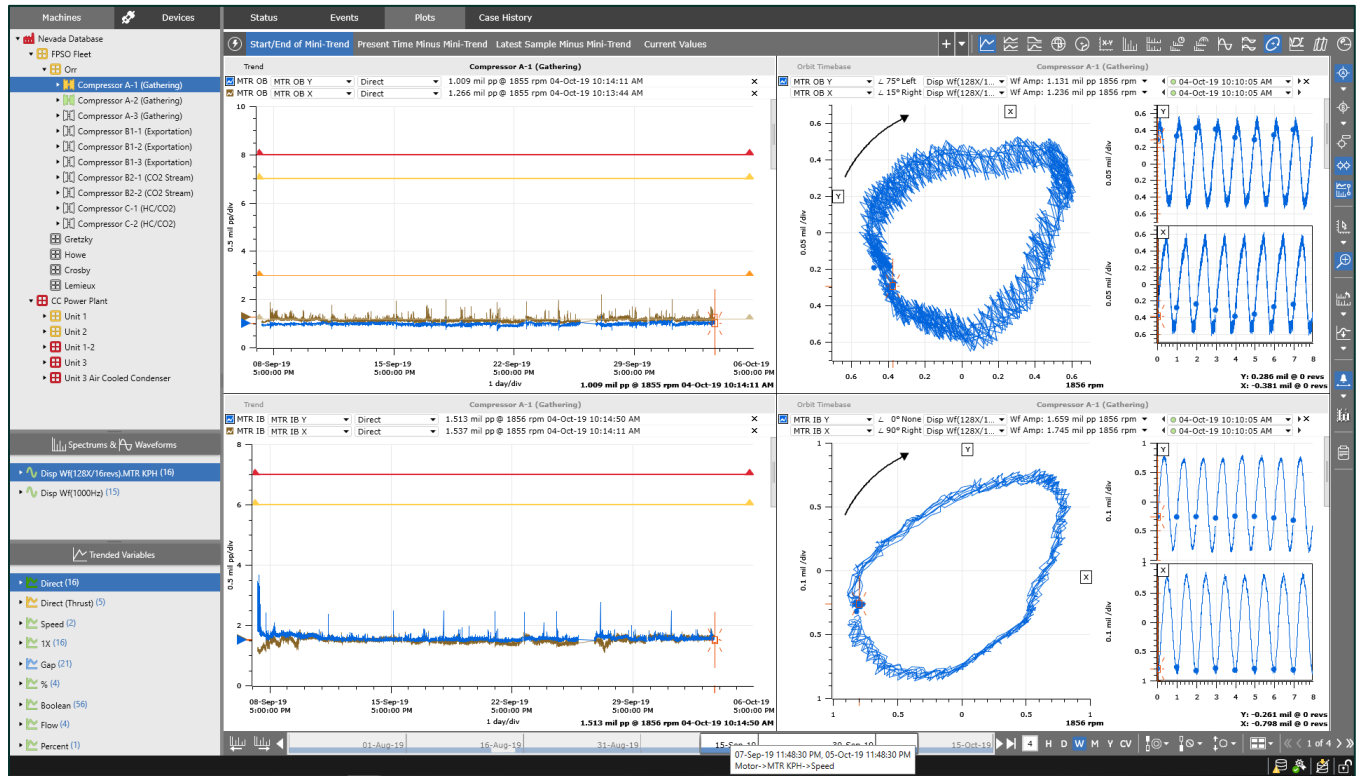

Figure 54: "Start/End of Mini-Trend Range"
- "Start/End of Mini-Trend Range", the Defined Plot Set is loaded with the exact saved range (Figure 54).